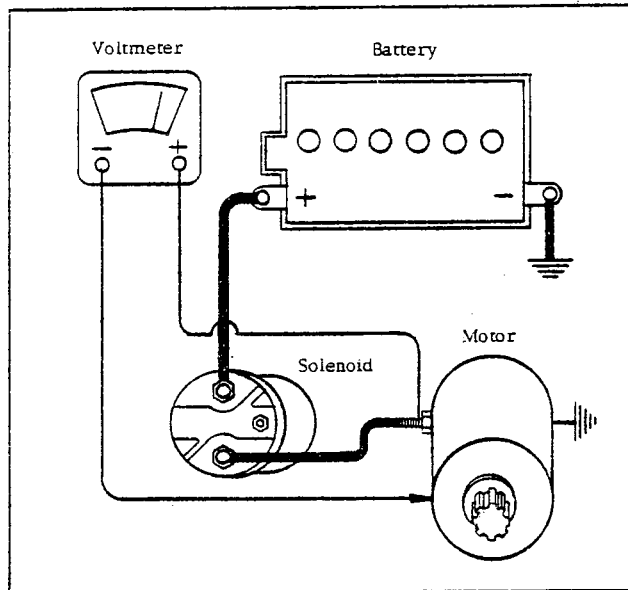

FIGURE 5 (ELECTRA-GLIDE)
5. Repeat test with test leads connected as shown in Figures 5 or 6 (starter motor voltage).